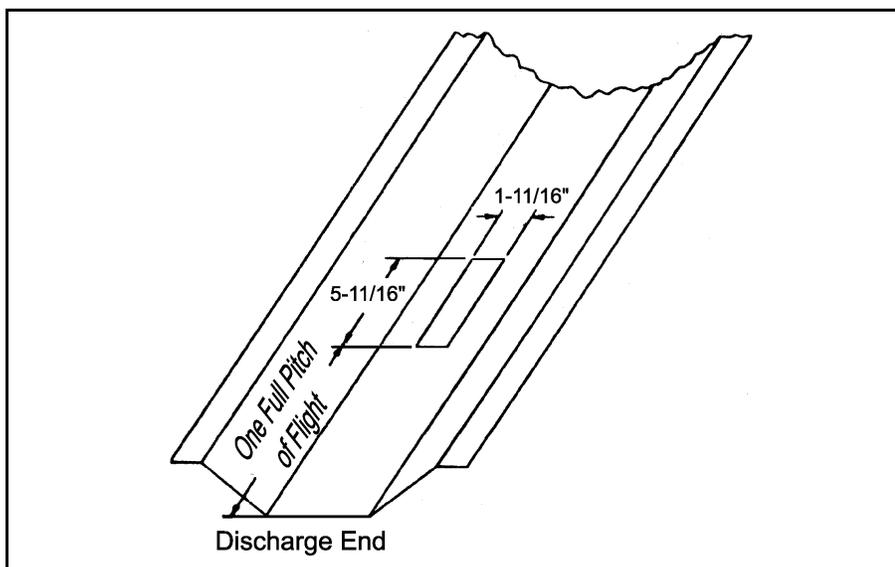
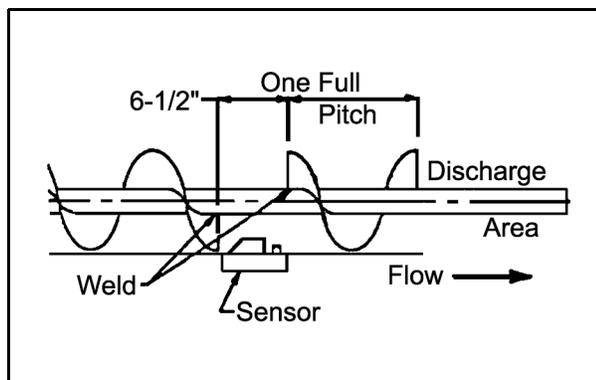

Figure 4D
Figure 4E
1. Determine where the sensor can be located. (See Figure 4D). There must be at least one full pitch of flight before and after the sensor. (See Figure 4E).
2. Remove the flat bottom pan and mark the sensor cutout area at least one (1) pitch length of the auger from the discharge area. This allows for good pickup of the grain when it leaves the sensing area. Cut the sensor rectangle 1-11/16" x 5-11/16" with a saber saw (do not torch cut) and check so the sensor block fits into it with the stepped edge. (See Figure 4D).
**Note:** For seven (7)" flight or less, cut the flight to the shaft. Weld the auger flight to the shaft at each end of the six and one half (6-1/2)" cutout marks, then cut out the six and one half (6-1/2)" of flighting from the auger, leaving only the drive tube. For eight (8)" or larger diameter flighting, one-half (1/2)" of flighting can be left as a ribbon around the shaft in the cutout area. (See Figure 4E).